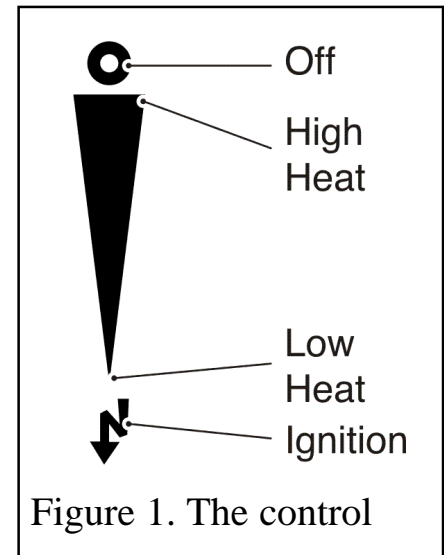

Figure 1. The control
The slide control is shown in figure 1.
3. If low heat is required, release the button. The button will automatically spring up to the low heat position shown in figure 1 (See note i).